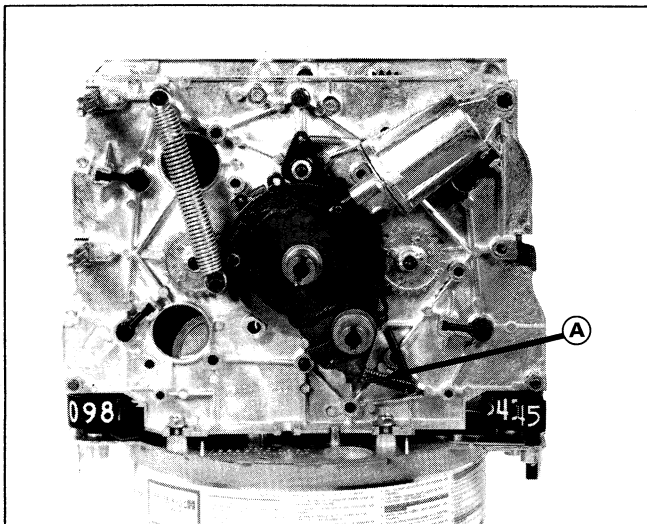

Figure 48.
3. Wheels Partially Reset or Reset Mechanism will not Lock (Figure 48).